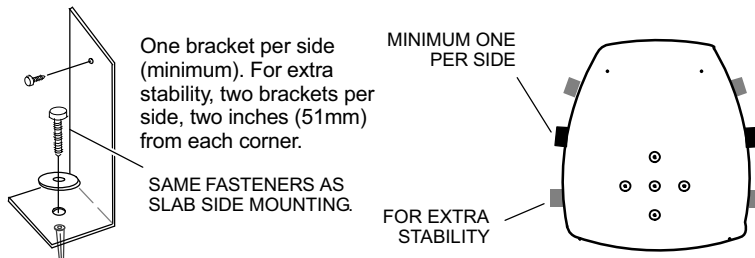

Figure 6. Placement, Slab Mounting and Stabilizing Unit
- When possible, do not install the unit directly outside a window. Glass has a very high level of sound transmission. For proper placement of unit in relation to a window see the provided illustration in figure 6, detail A.
When installing unit at grade level, the top of the slab should be high enough above grade so that water from higher ground will not collect around the unit. The slab should have a slope tolerance as described in figure 6, detail B.
NOTE — If necessary for stability, anchor unit to slab as described in figure 6, detail D.
Units are outfitted with elongated support feet as illustrated in figure 6, detail C.
Install the unit a minimum of 6 inches (152 mm) above the roof surface to avoid ice build-up around the unit. Locate the unit above a load bearing wall or area of the roof that can adequately support the unit. Consult local codes for rooftop applications. See figure 6, detail F for other roof top mounting considerations.